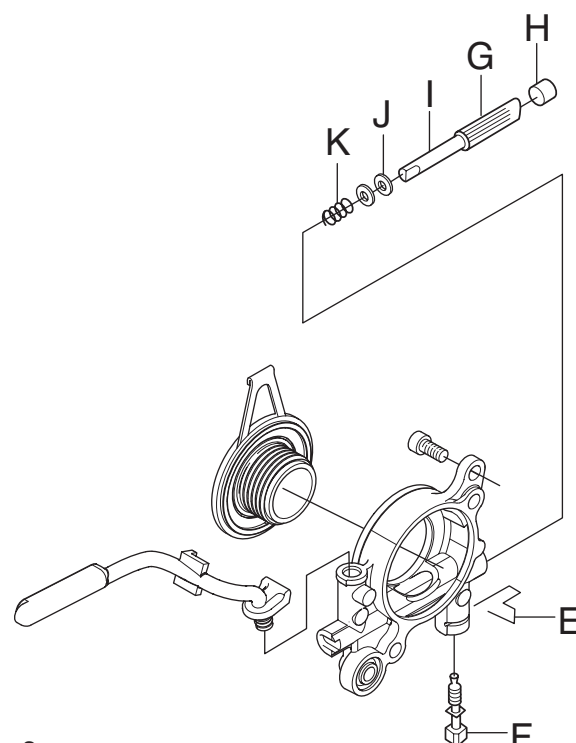

Fig. 3
7. Remove the clip (E) and unscrew the adjuster screw (F). See fig. 3.
8. Use a pair of pliers and push on the pump piston at G so that the cover plug (H) and pump piston (I) can be removed. See fig. 3.
9. Use a pair of pliers and pull out the spring (K) and 2 washers (J). See fig. 3.